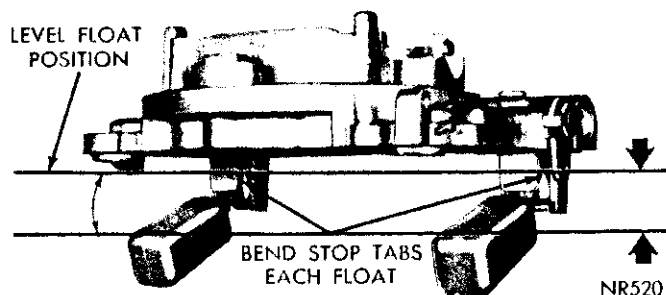

Fig. 11—Checking Float Drop
(1) With air horn inverted (upside down) place air horn in upright position and measure the distance floats move from inverted to upright position. This measurement should be 1/2 inch. (Fig. 11). Air horn gasket installed. If an adjustment is necessary, bend stop tabs on float levers until correct drop setting has been obtained. Bend tab toward needle seat to lessen drop, or away from seat to increase drop.
(2) After floats have been checked and adjusted, continue to assemble carburetor as follows:
(3) Place accelerator pump plunger lower spring in pump cylinder, then lower air horn carefully down on main body. Care must be taken to center small brass main bleed tubes so that they will pass through holes in air horn without being damaged. **Be sure the fuel baffles on the air horn, slide down in front, (bowl side) of the float chamber baffles, or the air horn will not index correctly with the main body and can cause the floats to hang up. Be sure the leather on the plunger does not curl or wrinkle. Accelerator pump operation will be affected if this precaution is not observed.** Place curb idle solenoid in position on carburetor. Install attaching screws and tighten securely. (If so equipped.)
(4) Install air horn attaching screws and tighten securely.